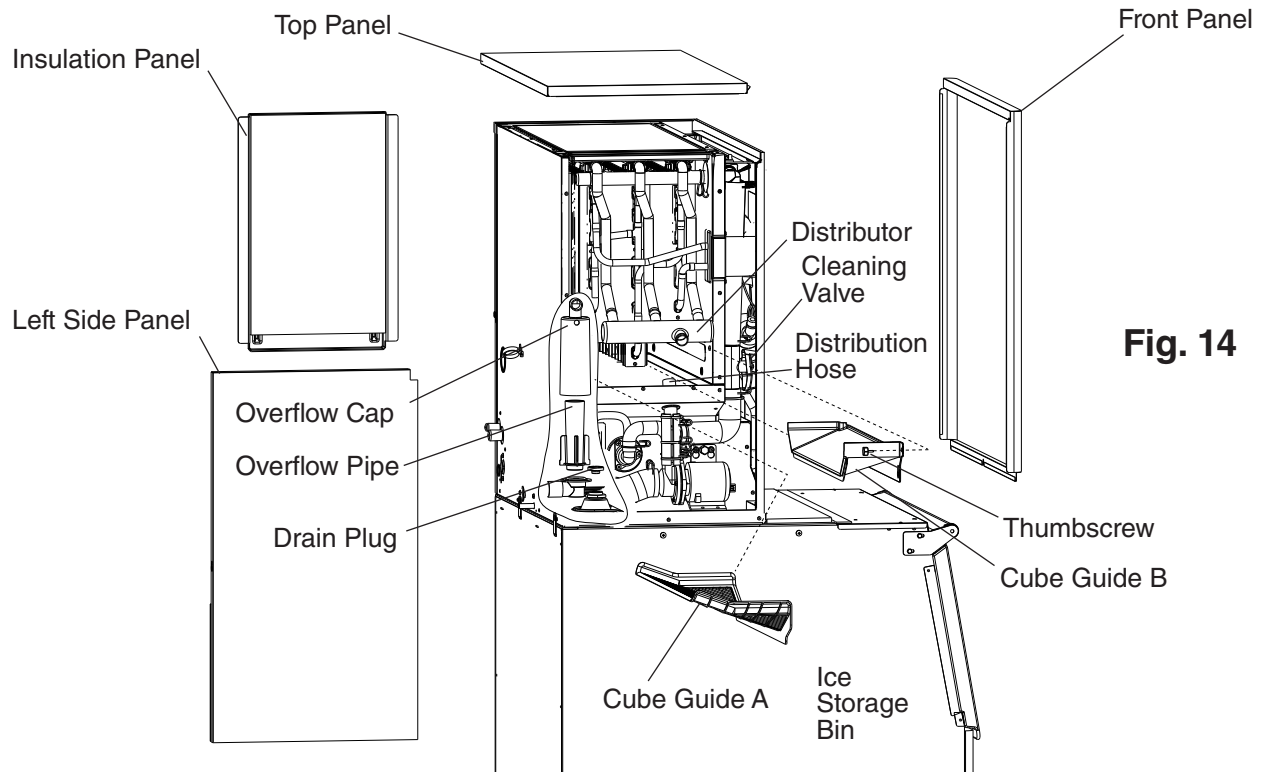

Fig. 14
- 4) Remove the top, left side, and insulation panels, then disconnect the distributor from the distribution hose. Remove the thumbscrew securing cube guide B, then remove cube guide B and cube guide A. See Fig. 14.
- 4) Disconnect the distributor from the distribution hose. Remove the thumbscrew securing cube guide B. Remove cube guide B, then remove cube guide A. Remove the overflow cap and overflow pipe. See Fig. 14.